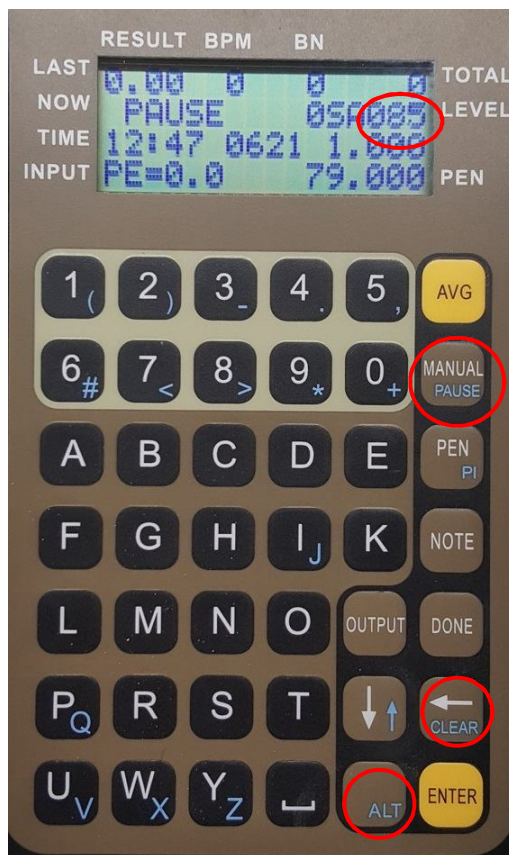

Figure 5. Manual collection mode displayed.
3.5.1. Saximeter can record blows in either Manual Mode or Automatic data collection mode. This is not to be confused with auto and manual sensitivity/trigger modes. By pressing the MANUAL key, the saximeter will switch to manual mode, the letters MAN will be displayed on the Level line (Figure 5). In manual mode, the blow counts are increased by pressing the MANUAL key for each blow and the increments are changed with the AVG key. It is preferred to collect data in auto mode; therefore, **to switch back to automatic data collection mode, press the following key sequence: ALT>CLEAR>ALT>CLEAR.**